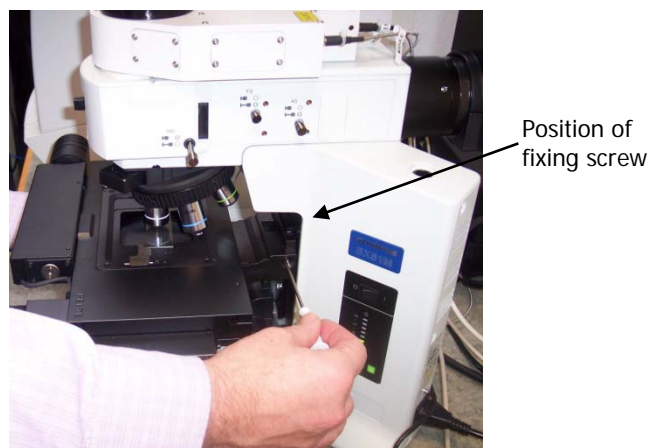

Figure 31 Adjusting the height of the motorized stage
7. Loosen the fixing screw on the side of the microscope (Figure 31).
Using a hexagonal key, loosen the fixing screw on the side of the microscope (Figure 31).